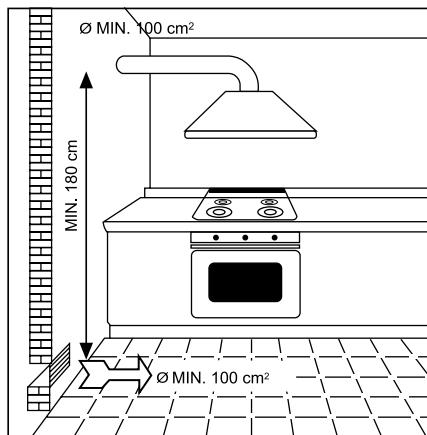

Fig. 5
- Install the appliance in a properly ventilated room only! Refer to the dimensions indicated by Fig. 5.